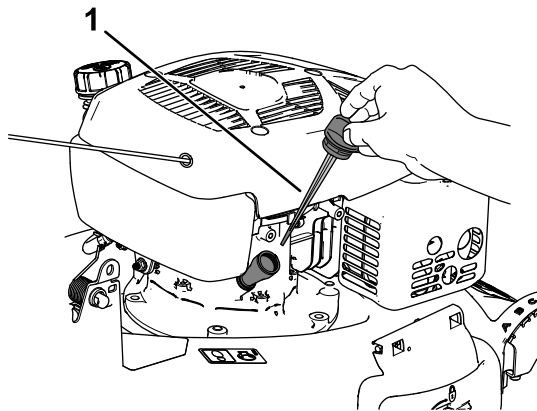

Figure 32
3. Remove the dipstick by rotating the cap counterclockwise and pulling it out (Figure 32).